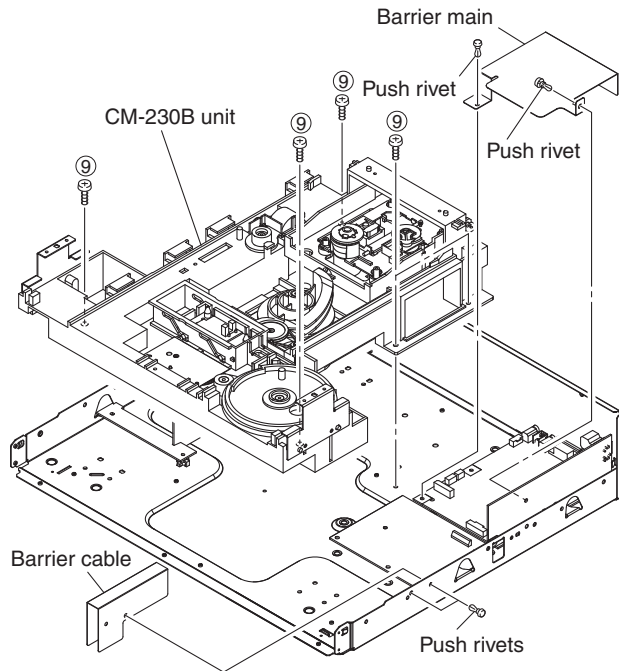

Fig. 8
- a. Remove 2 push rivets and remove the barrier main. (Fig. 8)
- b. Remove 2 push rivets and remove the barrier cable. (Fig. 8)
- c. Remove 5 screws (9). (Fig. 8)
- e. Take the CM-230B unit out slowly. (Fig. 8)